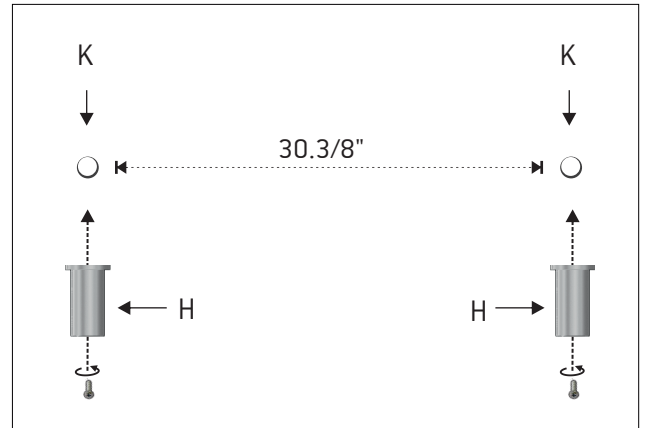
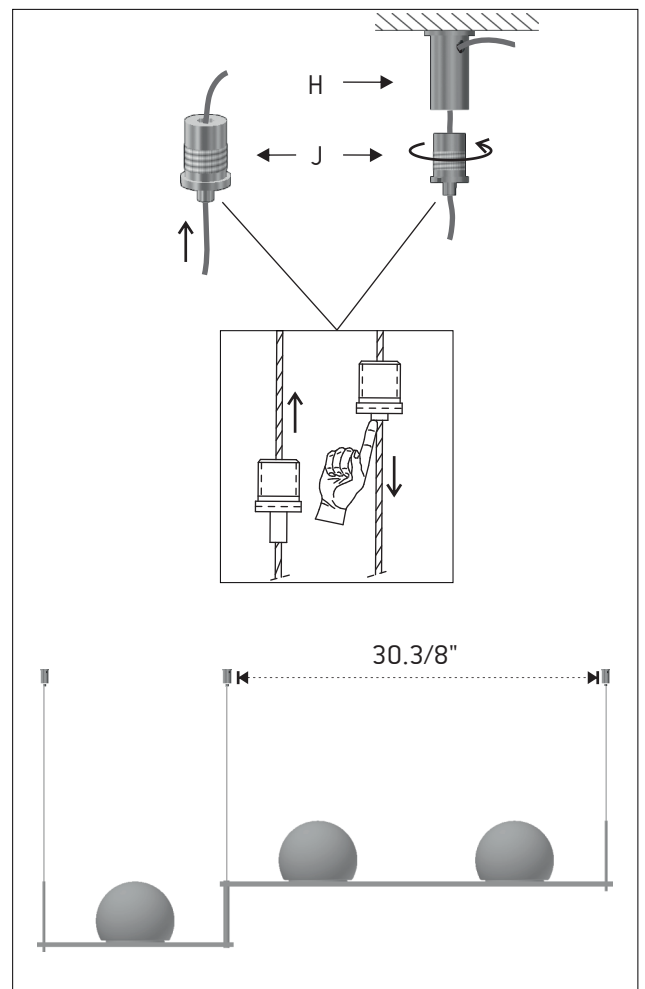

Figure 7
Figure 8
7 - Mark one spot (K) on the ceiling at a distance of 30.3/8" (772mm) between them and fix the two tensors (H) in the mark. Figure 7. (See figure 8 to see the result)
8 - Insert the steel cables into the gripper supports (J) and then insert them through the side hole of the tensors (H). Again screw the gripper support to the tensor and adjust the cable to the desired length. Figure 8